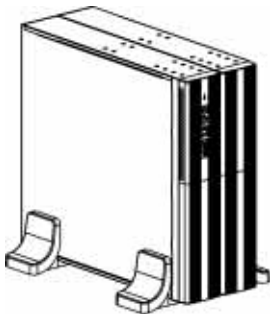

Fig. 6: UPS Tower with Battery Set Up
2. Place feet under UPS and external battery, see Figure 6.